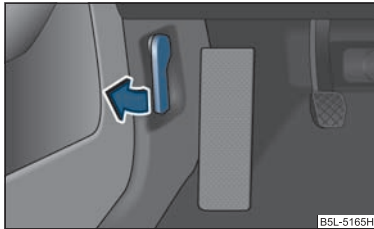

Fig. 161 Bonnet release lever
- Pull the unlocking lever below the dash panel on the driver's side ⇒ fig. 161.
- Unlock the bonnet ⇒ fig. 161.